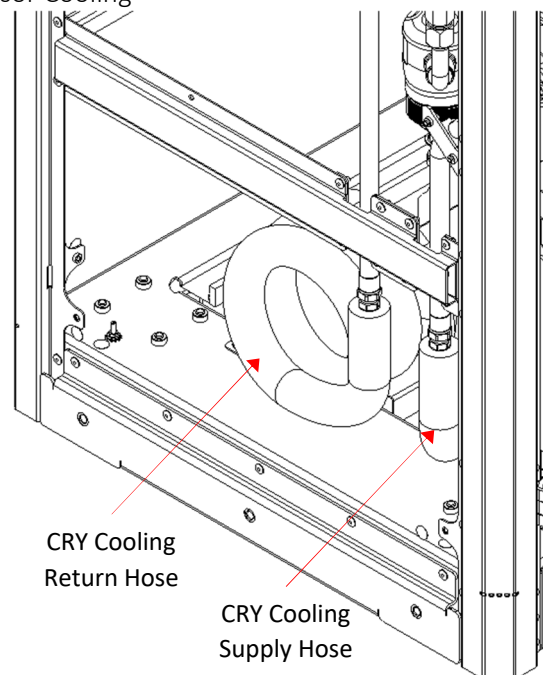
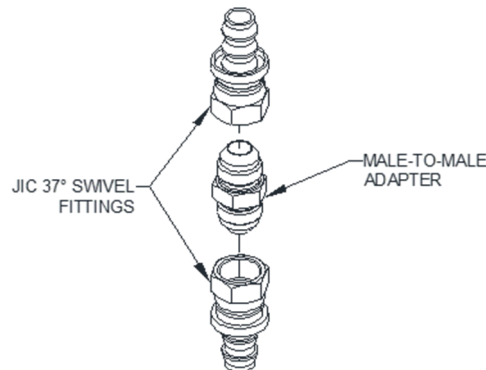

Figure 2-22: Cryogen Compressor Cooling Hoses
Figure 2-25: Cryogen Compressor Cooling Jumper Connection Removal
2. Locate the CRY Cooling Hoses (refer to Figure 2-22). Clip the cable ties on each hose to unravel them. The hoses are connected from the factory by a male-to-male adapter (jumper connection) (refer to Figure 2-25). Use a 7/8" wrench (for the JIC 37° hose swivel connectors) and a 13/16" wrench (for the male-to-male adapter) and disconnect the hoses from each other and the adapter. The male-to-male adapter can be discarded.